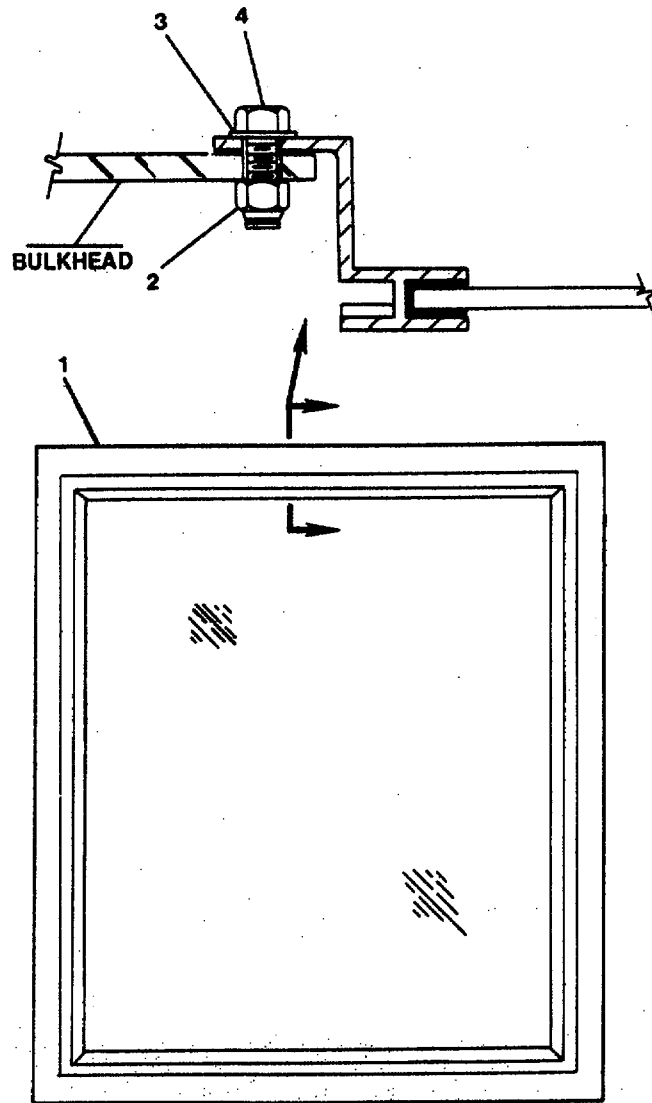

FIGURE 3-183. *Replace Fixed Window, Single Pane.*
- a. Position fixed window (1, Figure 3-183) in bulkhead opening.
- c. Secure fixed window (1) using flat washers (3), capscrews (4, and selflocking nuts (2).